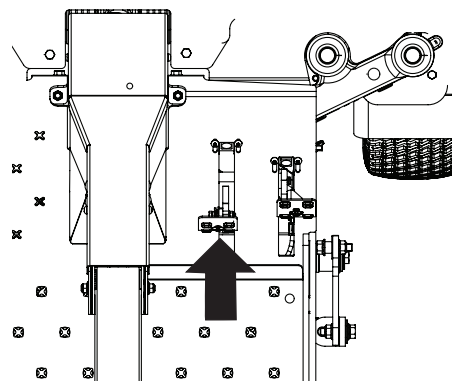

Fig. 25
1. Slowly push the forward drive pedal forward. The mower will start to move forward (Fig. 25).